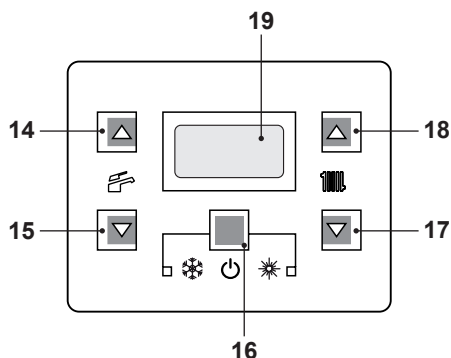
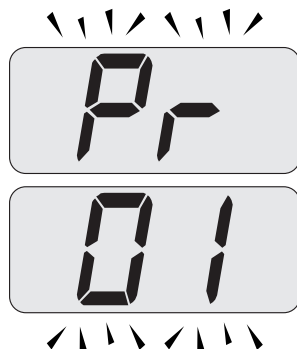
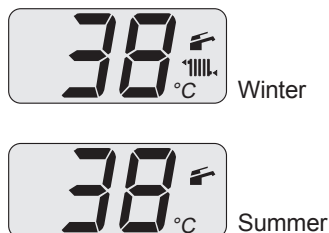

Fig. 10.16
Fig. 10.17
Fig. 10.22
- Enter in "programming mode" by sequentially pressing and holding in keys, 16 - 17 and then 18 (Fig. 10.16) for 10 seconds until the letters **Pr** that alternate with code **01** are displayed on the LCD display, indicating that "parameter 01" (Fig. 10.17) has been activated.
- Press keys 17 and 18 (Fig. 10.16) at the same time until the LCD display displays the letters **LP** that alternate with the heating water temperature value (e.g. **45**), indicating the activation of the "flue sweep function" at minimum output (Fig. 10.18).
- By pressing 18 (Fig. 10.16) it is possible to change power in flue sweep mode: with the letters **hP** on the LCD display which alternate between the heated water temperature (i.e. **32**), we are in the "flue sweep function" at the minimum power during heating (Fig. 10.19).
- Press sequentially keys, 16 - 17 and then 18 (Fig. 10.16) and hold in for 10 seconds to exit the "flue sweep mode" and return to the previously set boiler status (Fig. 10.22).